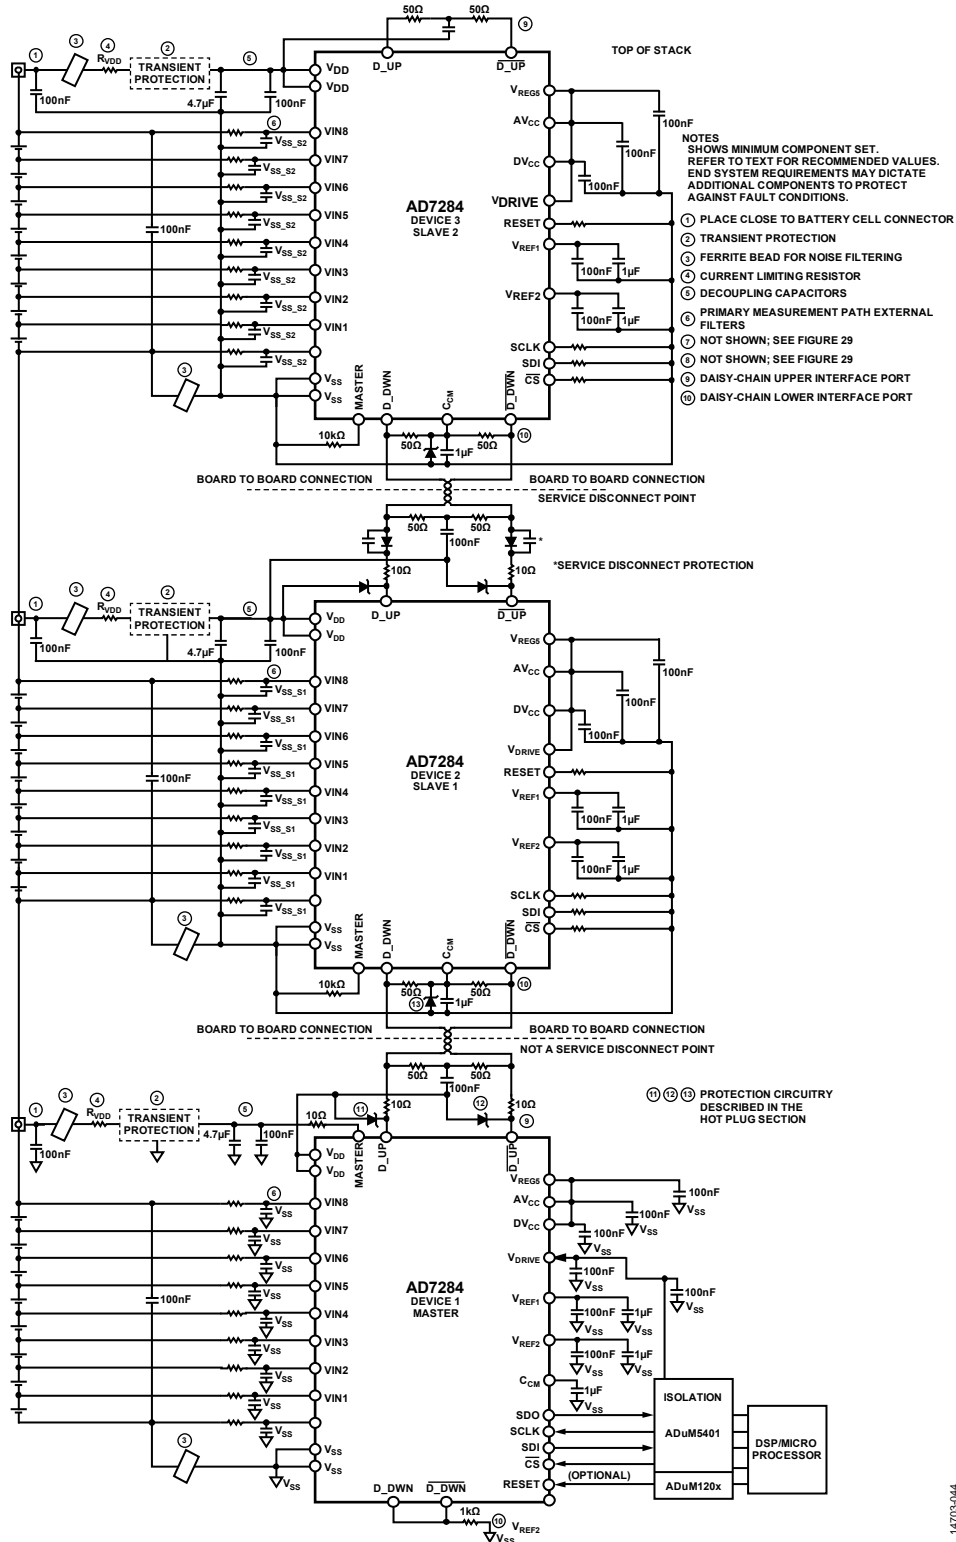

Figure 42. AD7284 Daisy-Chain Configuration with Three Devices, Where All Devices are on Separate Boards
The following notes refer to the notes detailed in Figure 41 and Figure 42:
3. Ferrite bead to filter supply noise. Typically, 1 k Ω ferrite (100 MHz) is recommended in the V_{DD} path. If a ferrite is required in the V_{SS} line, it is recommended to use a value <100 Ω (100 MHz). This note applies to the master or slave configurations. See Note 11 in Figure 41 and see Note 3 in Figure 42.
Li-Ion battery applications require a significant number of individual cells to provide the required output voltage. Figure 42 shows the recommended configuration of a chain of AD7284 devices monitoring a larger battery stack. The daisy-chain interface of the AD7284 allows each AD7284 to communicate with the AD7284 immediately above and below it. The daisy-chain interface allows the AD7284 devices to be electrically connected to the battery management device without the need for individual isolation devices between each AD7284. One AD7284 acts as the master device, interfacing through the standard SPI interface to the host processor and to the chain of connected slave devices.
Figure 42 shows how a chain of three devices can be configured to operate on individual boards, if required; the same configuration can be used if all devices are mounted on the same board.